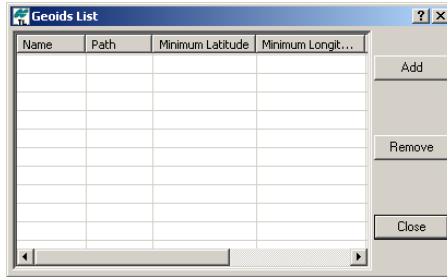

Figure 3-16. Geoids List Dialog Box
- On the **Geoids List** dialog box, click **Add** (Figure 3-16).